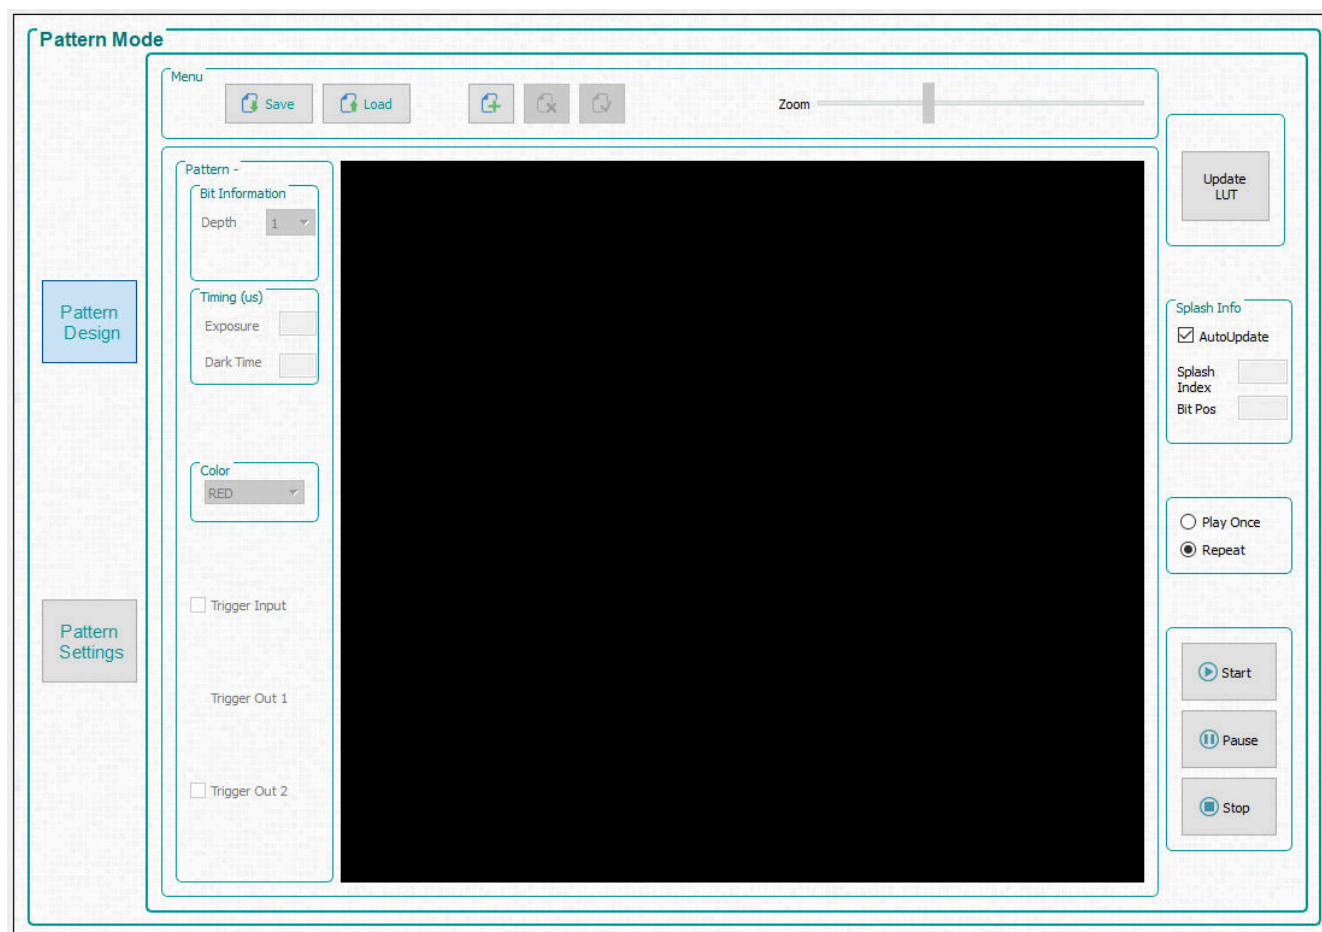

Figure 3-6. Pattern Mode Design Panel
Click the *Pattern Mode* button at the top of the GUI to display the *Pattern Mode* panel as shown in Figure 3-6.
2. Select *Pattern On-The-Fly Mode* from the *Operating Mode* group box, and then click the *Pattern Design* button so that the large black panel is displayed as shown in Figure 3-6.
4. Select *Video Pattern Mode* from the *Operating Mode* group box, and then click the *Pattern Design* button so that the large black panel is displayed as shown in Figure 3-6.